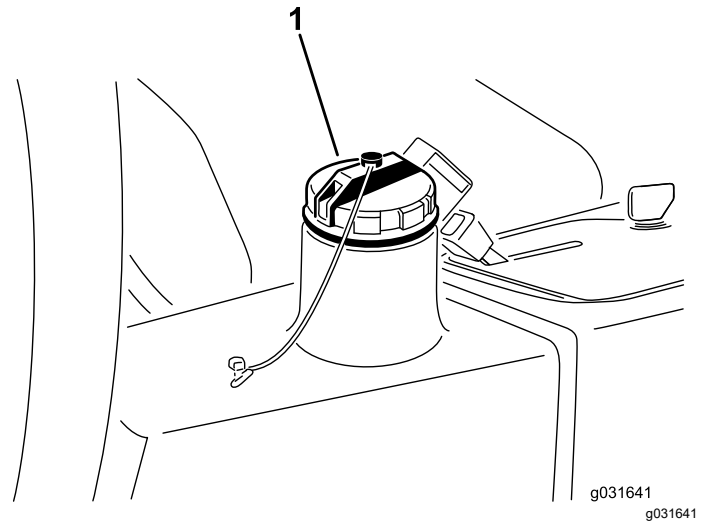

Figure 66
4. Fill the reservoir (Figure 66) with approximately 13.2 L (3.5 US gallons) of hydraulic fluid; refer to Hydraulic Fluid Specifications (page 53) and Checking the Hydraulic Fluid Level (page 53).